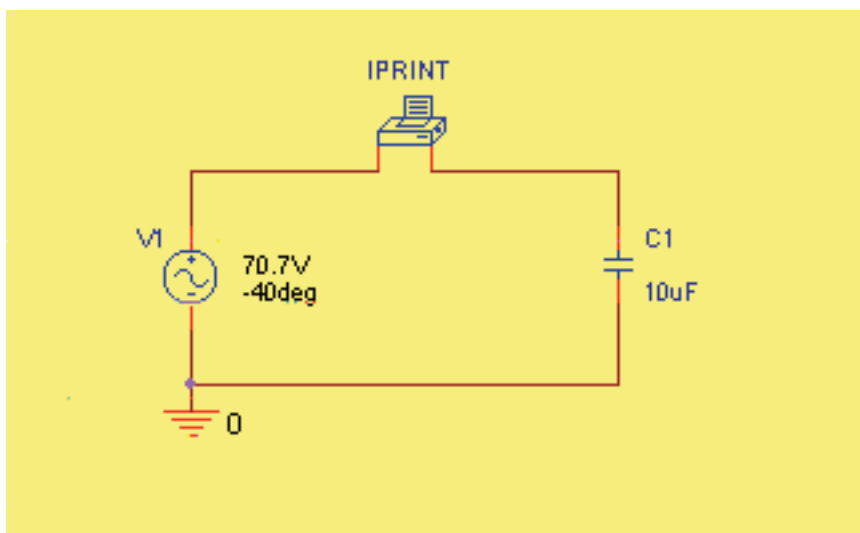

FIGURE 16-48 Phasor analysis using PSpice. Component IPRINT is a software ammeter.
As a last example, we will show how to use PSpice to perform phasor analysis—i.e., to solve problems with voltages and currents expressed in phasor form. To illustrate, consider again Example 16-17. Recall, $V_C = 70.7 \text{ V} \angle -40^\circ$, $C = 10 \mu\text{F}$, and $f = 1000 \text{ Hz}$. Procedure: Create the circuit on the screen (Figure 16-48) using source VAC and component IPRINT (Note 1). Double click the VAC symbol and in the Property Editor, set ACMAG to **70.7V** and ACPHASE to **-40deg**. (See Note 2). Double click IPRINT and in the Property Editor, type **yes** into cells AC, MAG, and PHASE. Click Apply and close the editor. Click the New Simulation Profile icon, select AC Sweep/Noise, Linear, set both Start Frequency and End Frequency to
1. Component IPRINT is a software ammeter, found in the SPECIAL parts library. In this example, we configure it to display ac current in magnitude and phase angle format. Make sure that it is connected as shown in Figure 16-48, since if it is reversed, the phase angle of the measured current will be in error by 180° .
2. If you want to display the phase of the source voltage on the schematic as in Figure 16-48, double click the source symbol and in the Property Editor, click ACPHASE, Display, then select Value Only.